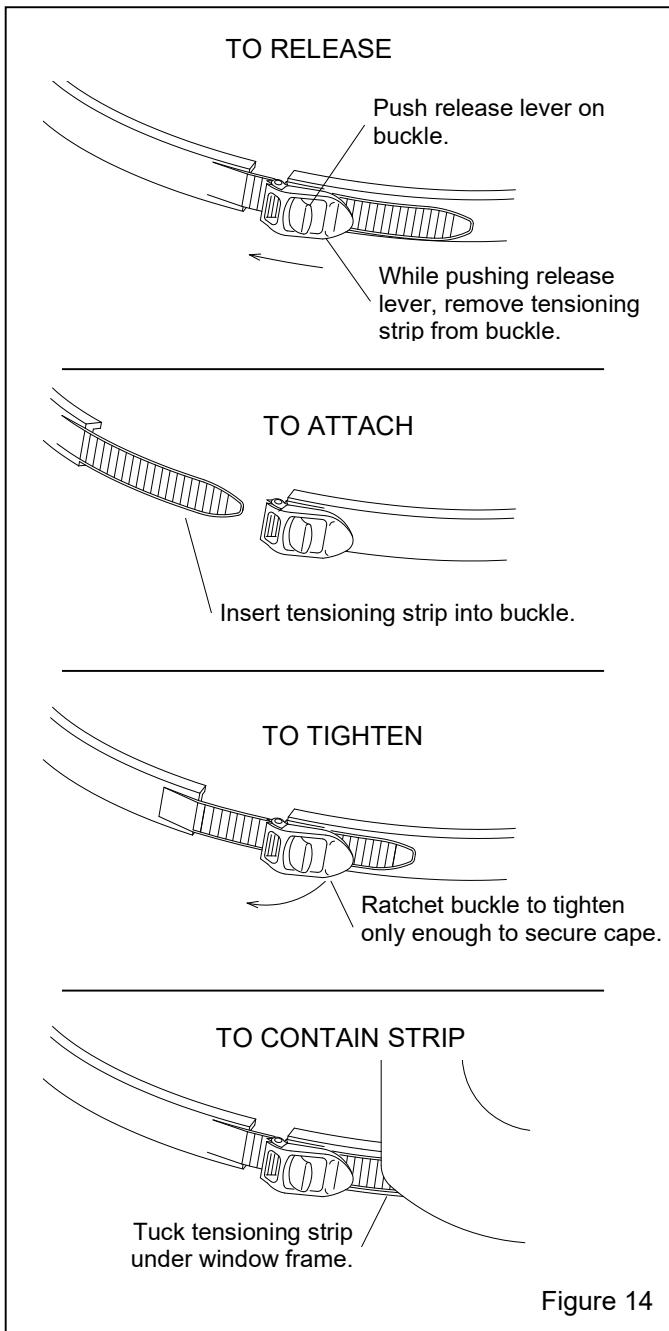

Figure 14
10.8.3 Push the release lever on the cape attachment buckle, as shown in Figure 14. While pushing the lever, pull the tensioning strip out of the buckle and remove the attachment strap.